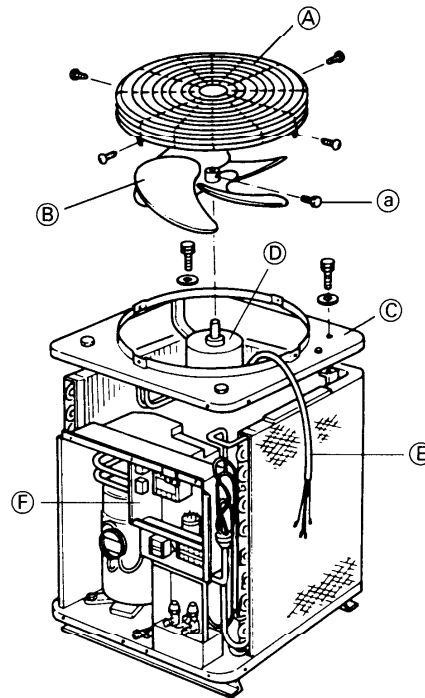

Fig. 7
- 1) Remove the fan (B) and fan motor (D) by lifting up after removing the guard (A) and loosening one screw (a) of the fan.
- 2) Disconnect the fan motor wires (E) from the electrical component box (F) and then, remove the top cover (C) with fan motor Fig. 7